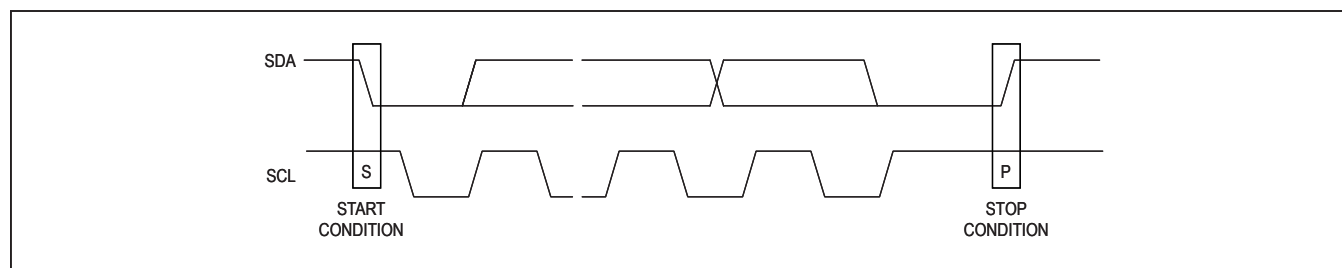
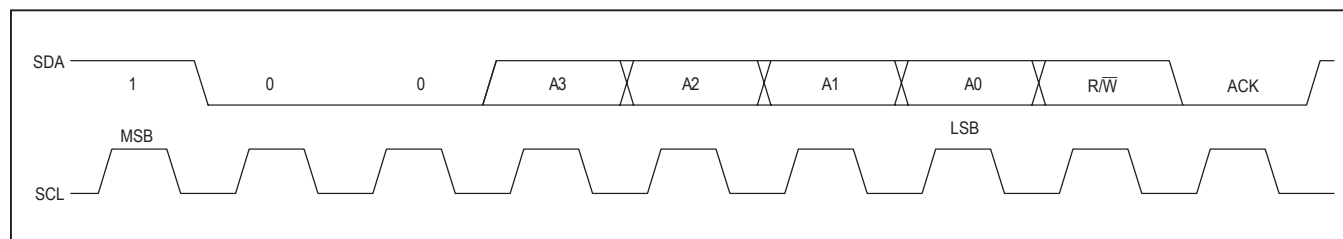

Figure 3. Standard Stop Conditions
Figure 6. Slave Address
Each transmission consists of a START condition (Figure 3) sent by a master, followed by the MAX6956 7-bit slave address plus R/W bit (Figure 6), a register address byte, one or more data bytes, and finally a STOP condition (Figure 3).
finished communicating with the slave, it issues a STOP (P) condition by transitioning SDA from low to high while SCL is high. The bus is then free for another transmission (Figure 3).
The MAX6956 has a 7-bit-long slave address (Figure 6). The eighth bit following the 7-bit slave address is the  $R/\overline{W}$  bit. It is low for a write command, high for a read command.